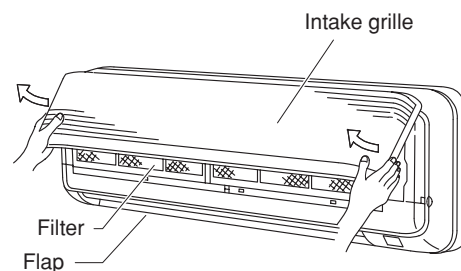

Fig. 3-53
(1) Lift up on both sides of the air-intake grille to open it. (Fig. 3-53)
(2) Remove the filter. (Fig. 3-53)